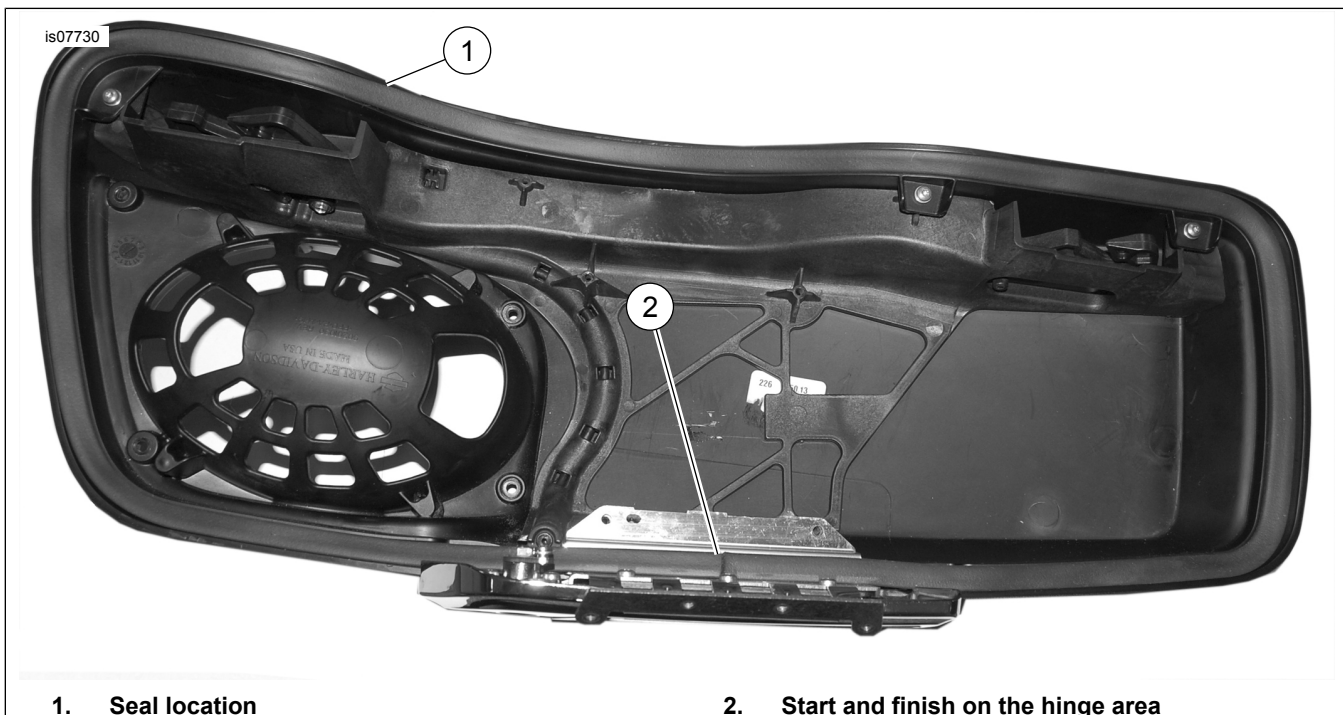

Figure 7. Install Foam Gasket
7. See Figure 7. Clean the area (1) with a mixture of 50-70 percent isopropyl alcohol and 30-50 percent distilled water. Remove the protective seal from foam gasket and install the foam gasket in orientation shown by applying pressure to the adhesive tape.